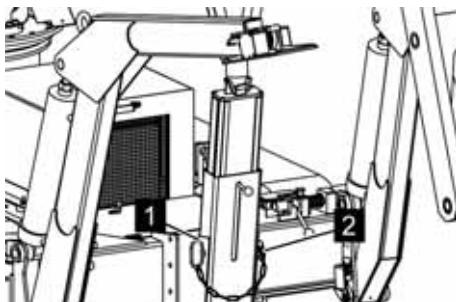

Fig. 77: Fastening bolts
5. ➤ Push the fastening bolts (Fig. 77/1) in and secure with the the spring cotter pin (Fig. 77/2).